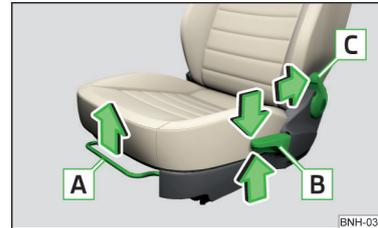

Fig. 51
Control elements at the seat » Fig. 51
- Pull lever **A** » Fig. 51 (in the centre) in the direction of arrow and push the seat in the required direction.
- Again push or pull the lever **B** » Fig. 51 in the direction of one of the arrows.
- Pull the lever **C** » Fig. 51 in direction of arrow and with your back set the desired inclination of the seat back.